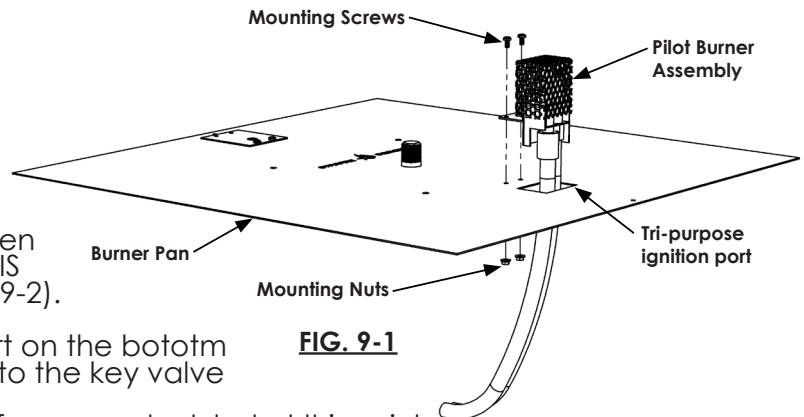

FIG. 9-1
5. Insert the pilot burner assembly through the tri-purpose ignition port on the burner pan and attach as shown in Fig. 9-1.